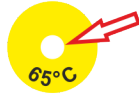

Fig. 27: Temperature indicator light: Temperature is okay.
1. Check that the temperature indicator is in a proper state (Fig. 27).